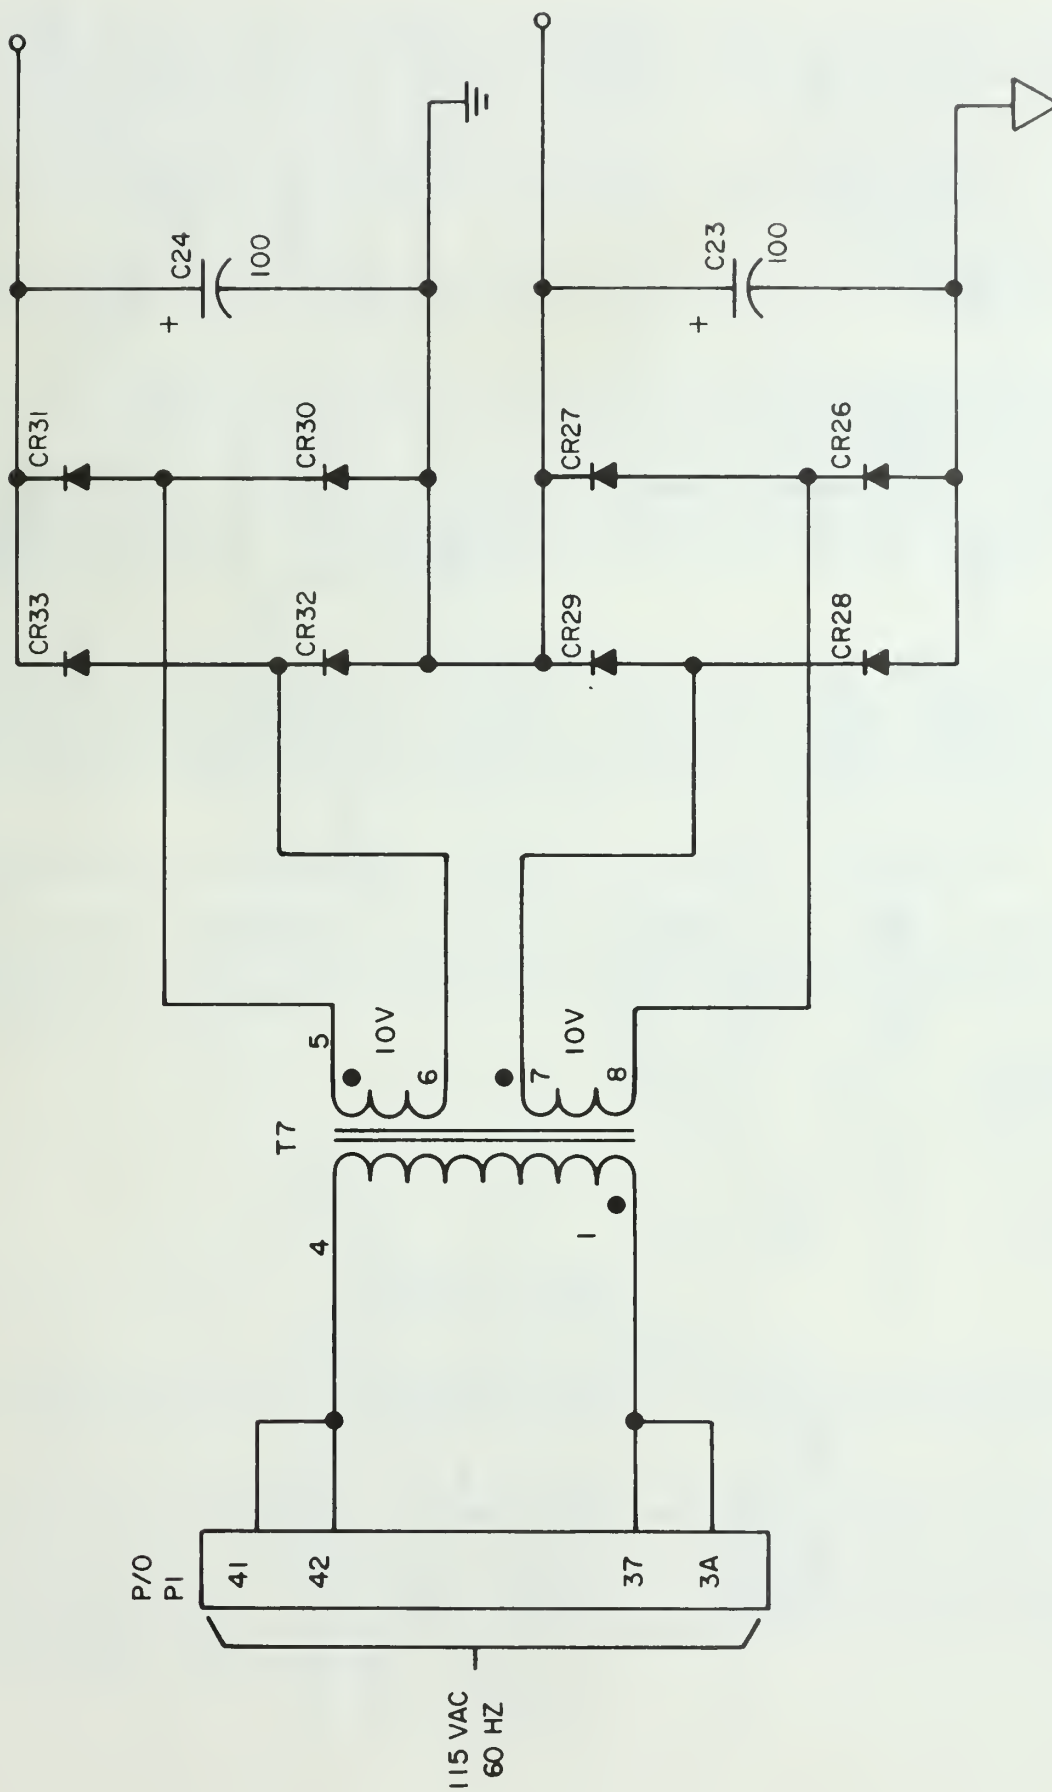

Figure 2-11. Control IC Supply
**2.4.1.2** A small ac line transformer T7 supplies a separate dc voltage to each of the pulse width modulation (PWM) ICs (see figure 2-11). The secondary of transformer T7 has two windings. The output voltage of these windings is rectified and filtered. One output is grounded through the system ground, and the other is floating and isolated.